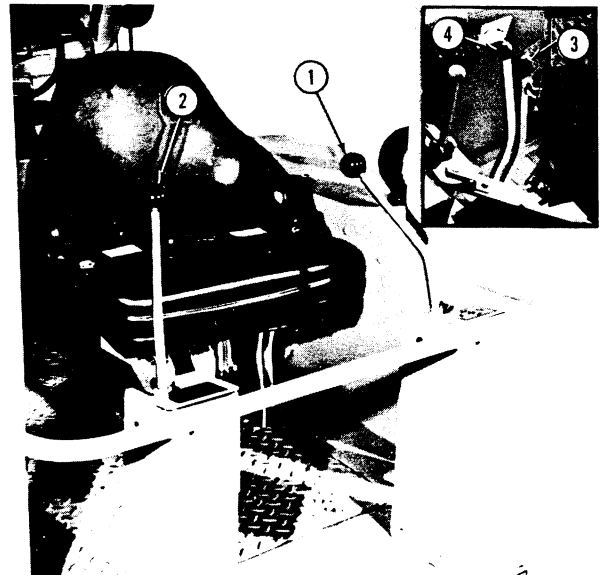

Figure 1
The backhoe is controlled by the use of four levers show in Figure 1. They are:
The backhoe digging function is controlled by the use of two levers as shown in Figure 1. They are boom and swing lever (1), and crowd and bucket lever (2).
The stabilizers are controlled by the use of two levers as shown in insert, Figure 1. Left stabilizer (3), and right stabilizer (4).